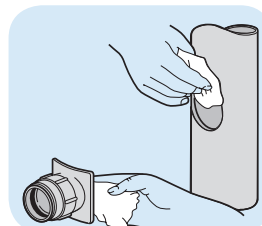

Fig. 13
- Once satisfied that the boss fits neatly into the pipe remove and clean all mating surfaces with Terrain cleaner 9101 (Fig. 13).